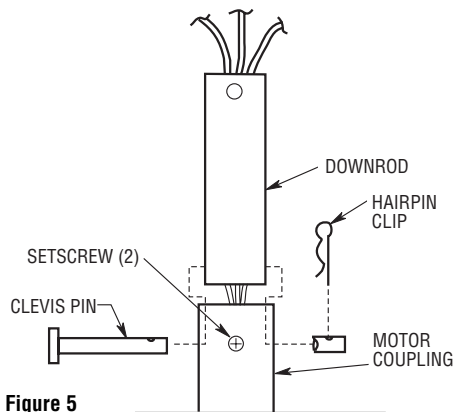

Figure 5
- 3. Loosen setscrew in motor coupler if necessary. Separate, untwist and unkink the three 42" motor leads. Route the motor lead wires through the downrod. Align the clevis pin holes in the downrod with the holes in the motor coupler. Install the clevis pin and secure with the hairpin clip (Figure 5). The clevis pin must go through the holes in the motor coupler and the holes in the downrod. Be sure to push the straight leg of the hairpin clip through the hole near the end of the clevis pin until the curved portion of the hairpin clip snaps around the clevis pin. The hairpin clip must be properly installed to prevent the clevis pin from working loose. Pull on the downrod to make sure the clevis pin is properly installed.
It is critical that the clevis pin in the motor coupler is properly installed and the setscrew securely tightened. Failure to verify that the pin and setscrew are properly installed (as shown in Figure 5) could result in the fan falling.